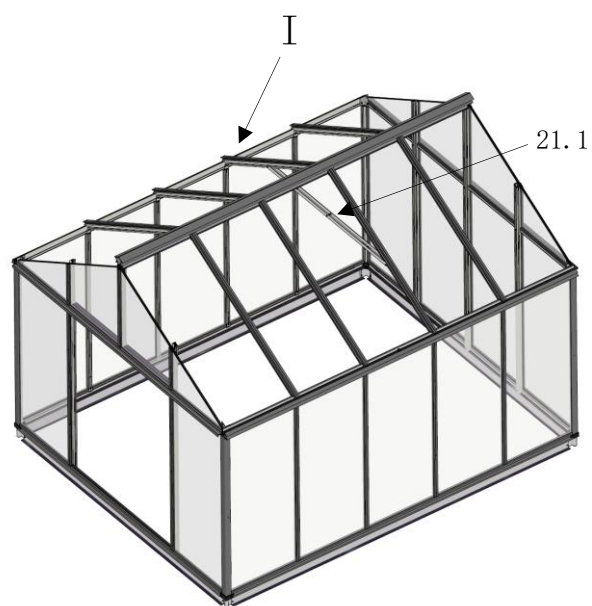

fig. 48
- the position of the AG drawstring (**item 21.1**) is mounted between the third and fourth field, as in **fig. 48**.